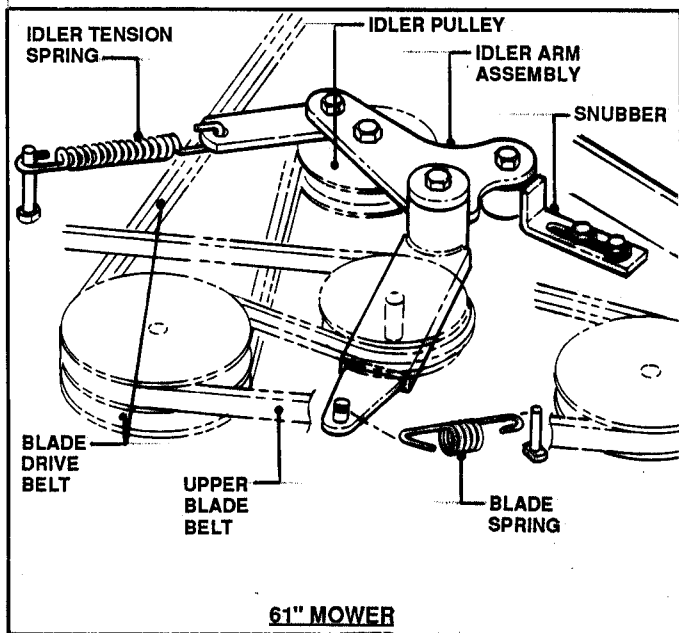

FIGURE 26
- 17. Disconnect Idler Tension Spring and Blade Spring from Idler Arm Assembly. See Figure 26.
- 18. Loosen snubber retaining bolts and move Snubbers away from Pulleys. Refer to Figure 26.
- 19. Remove UPPER BLADE BELT. Refer to Figure 26.